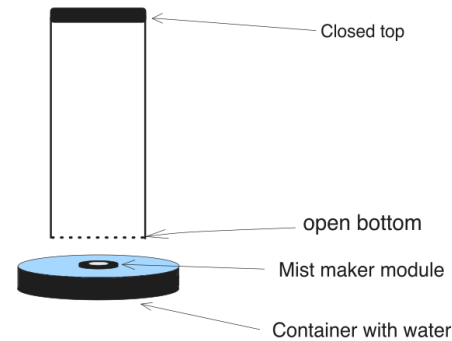

Fig. 1.
- I set up the experiment as shown in Fig. 1.